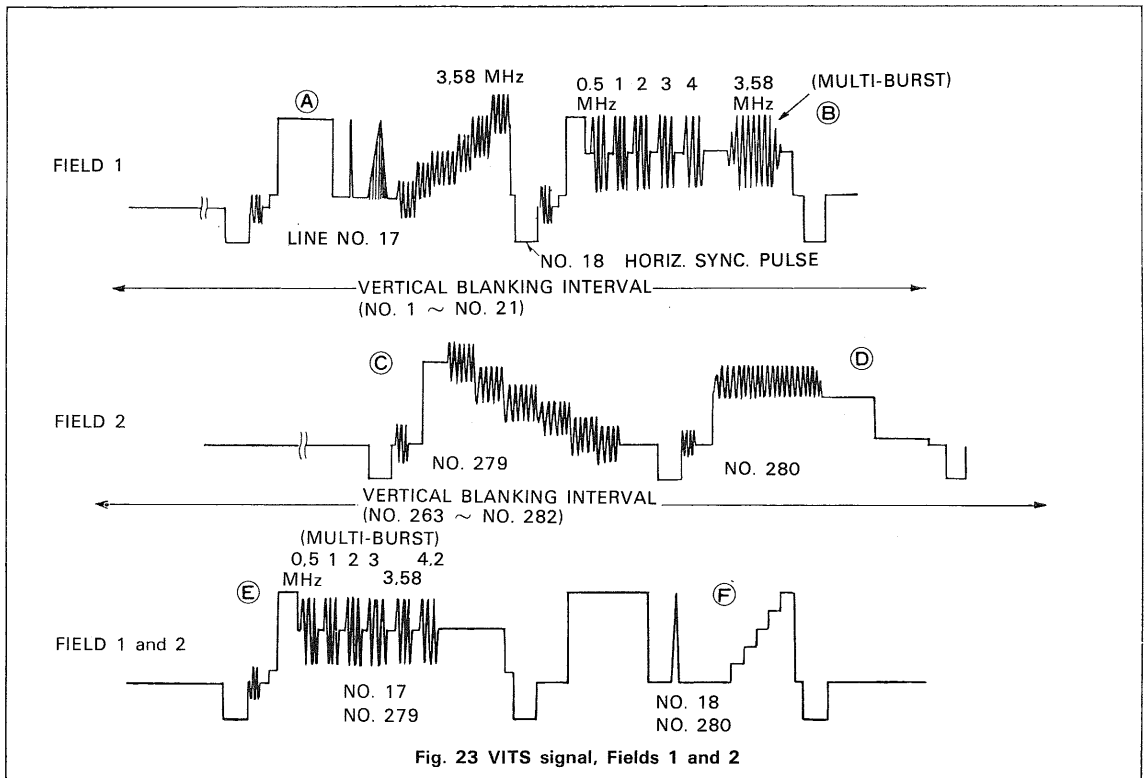

Fig. 23 VITS signal, Fields 1 and 2
different depending on broadcast stations. Also, the VITS information on Field 1 (1st interlaced scanning) and Field 2 (2nd interlaced scanning) are different in many cases. Examples of VITS signal is shown in Fig. 23.
The transmitted VITS has a specific frequency, amplitude and waveform as shown in Fig. 23. The television networks use the precision signals for adjustment and checking of network transmission equipment, but the multiburst signal in VITS can also be used for checking the operating condition of TV set. The first frame of VITS at the "B" section (line 18) in Fig. 22 begins with a white reference signal, followed by sine wave frequencies of 0.5 MHz, 1.0 MHz, 2 MHz, 3 MHz, 4.0 MHz and 3.58 MHz. This sequence of frequencies is called the "multi-burst" which is very useful.
9. Set the SWEEP TIME/DIV control to the 0.1 ms/div position to expand the display. The VITS information will appear toward the right hand portion of the expanded waveform displays. The waveform information on each trace may appear as shown in Fig. 23. Because there is no provision for synchronizing the oscilloscope display to either of the two fields which comprise a complete vertical frame, it cannot be predicted which field display will appear on the CH1 or CH2.
10. With the delay sweep applied (see page 13), adjust VITS signals as shown in Fig. 23.